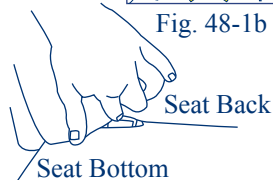
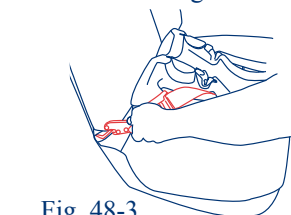

Fig. 48-2
Fig. 48-3
- 15.3.3) Rotate retainer (Fig. 48-1a) and press the red release button of the LATCH connector and remove the connectors from their storage position inside the base (Fig. 48-1b). (Reverse these steps to re-store LATCH connectors.) Place the Base in the rear-facing position in a forward facing vehicle seat as shown in figure 48-3. **The Child must face the rear of the vehicle and Safety Seat must be placed in a vehicle seat that faces forward.**
- 15.3.4) Locate the LATCH anchors in the vehicle seat. (Fig. 48-2) Once located, snap the Safety Seat LATCH connectors onto the steel rod. Listen for the click and check that both connectors are firmly attached to the anchor rods by pulling outward on the connectors. Please see figure 48-3.